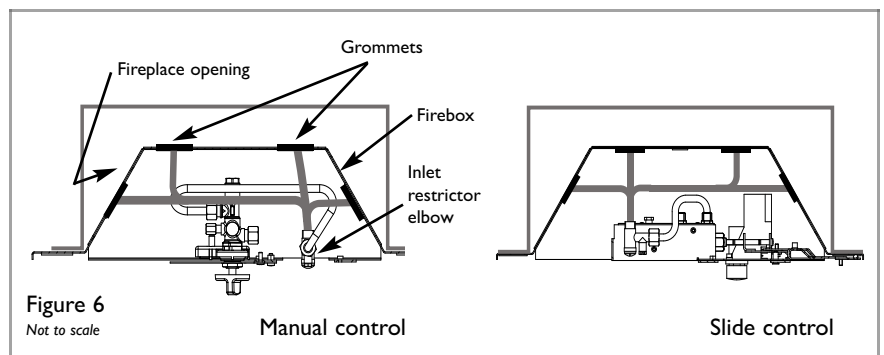

Figure 6
**Supply pipe entry** : Knockout holes are provided in the rear and sides of the firebox for use where concealed pipework is required. Where necessary, knock out the appropriate hole with a sharp tap from a hammer, and fit the rubber grommet supplied. A small incision can now be made in the rubber to slip snugly around the outside of the pipe and sleeving. **Do not install or use the appliance without the seal in place.** If a hole is inadvertently opened, reseal with an intact grommet. Failure to fit the seal correctly will cause flue suction to act upon the area under the burner, resulting in poor performance and intermittent cutting out of the burner. Some possible pipe routes are shown in figure 6.
When the opening is ready for installation of the fire, the gas supply can be routed. Some possible supply pipe routes are shown in figure 6. Select the supply route most relevant to the entry point of the gas supply into the fireplace opening. The gas pipe must be suitably protected where it passes through fireplace openings. Any sleeving should be sealed to the pipe at its ends.